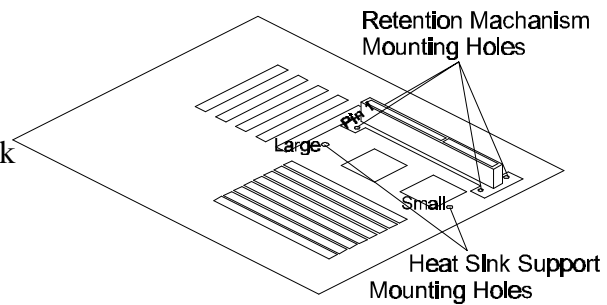

Figure 2-2
1. Find out the Retention Mechanism (RM) Mounting Holes and "Pin 1" mark of Slot 1 on HOT-623 main board. (Refer to Figure 2-2)